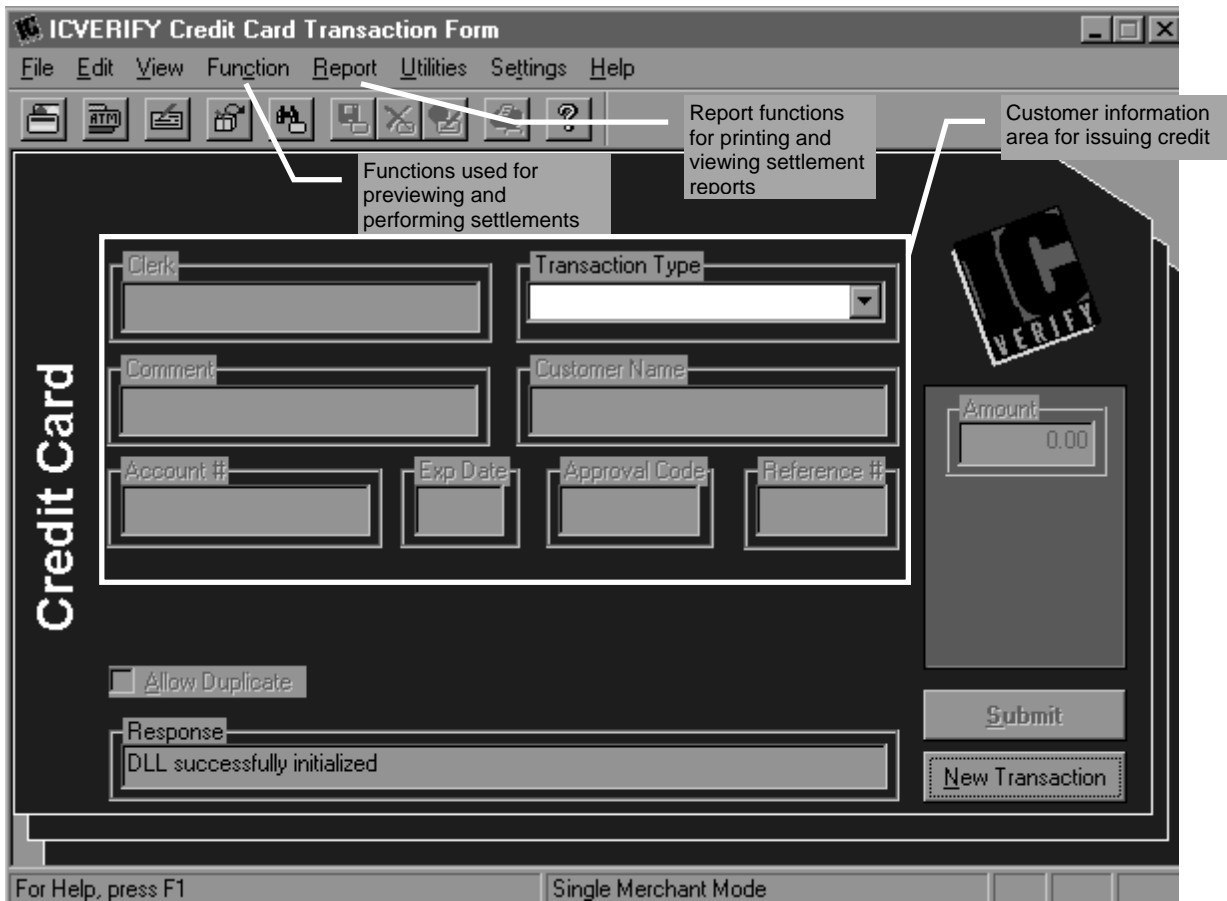

Figure 1
5. You will now see the main ICVerify screen. (See Fig. 1)